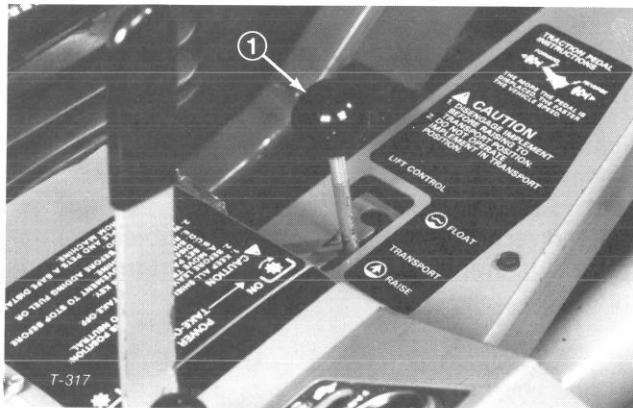
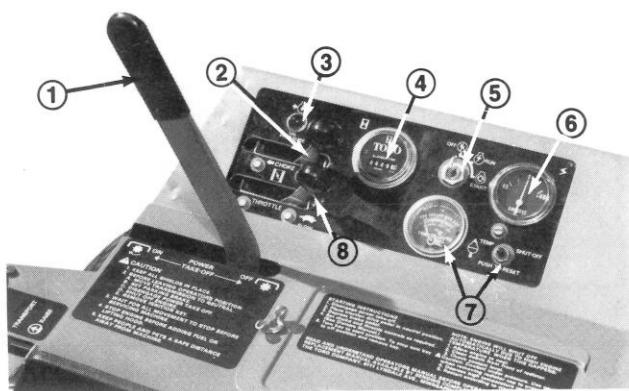

Figure 19
Figure 20
Lift Lever (Fig 19) — The hydraulic lift lever has three positions; FLOAT, TRANSPORT and RAISE. To lower implement to the ground, move lift lever forward into notch, which is the FLOAT position. The FLOAT position is used for operation and also when machine is not in operation. To raise implement, pull lift lever backward to the RAISE position. After implement is raised, allow lift lever to move to the TRANSPORT position. Normally, implement should be raised when driving from one work area to another, except when descending steep slopes.
PTO Lever (Fig. 20) — The PTO lever has two positions; ON, engage and OFF, disengage. Slowly push PTO lever fully forward to ON position to start the implement or cutting unit blades. Slowly, pull lever backward to OFF position to stop implement operation. The only time PTO lever should be in the ON position is when implement or cutting unit is down in operating position.
Oil Pressure Warning Light (Fig. 20) — The oil pressure warning light will glow and a buzzer will sound when oil pressure in engine drops below a safe level. If low oil pressure ever occurs, stop engine and determine the cause. Repair the damage before starting the engine again.
Hour Meter (Fig. 20) — The hour meter registers accumulated hours of engine operation. Use the hour meter to determine intervals for service maintenance and lubrication.
Ammeter (Fig. 20) — Ammeter shows charge rate of the battery by the alternator. When engine is running, there usually is a slight charge, unless engine is idling slowly. Needle will point to 0 when battery is fully charged. By contrast, alternator is not charging the battery when needle points to (-) negative side of ammeter, and if this happens, repair the charging system to prevent discharge of the battery.
Temperature Switch/Gauge and Reset Button (Fig. 20) — The temperature switch/gauge registers the temperature of the coolant in the cooling system. If temperature of coolant gets too high the engine will shut off automatically. When this happens, rotate ignition key to OFF. Automatic shut-off of the engine usually results from debris on front of screen or radiator, which reduces air flow. After cleaning outside of screen and radiator or repairing some other damage, press the reset button and start the engine.
Ignition Switch (Fig. 20) — The ignition switch, which is used to start and stop the engine, has three positions; OFF, RUN and START. Rotate
Choke (Fig. 20) — To start a cold engine, close carburetor choke by moving choke control fully forward. After engine starts, regulate choke to keep engine running smoothly. As soon as possible, open the choke by pulling it backward.
Throttle (Fig. 20) — Throttle is used to operate engine at various speeds. Moving throttle forward increases engine speed — FAST; backward decreases engine speed — SLOW. The throttle regulates the speed of the cutter blades or other implement components and, in conjunction with traction pedal, controls ground speed of the traction unit.
1. Insure parking brake is set, PTO lever is in OFF position (Fig. 20) and lift lever is in TRANSPORT or FLOAT position (Fig. 19). Remove foot from traction pedal and assure it is in neutral.
2. Move throttle control (Fig. 20) to SLOW position.
3. To start engine, move choke lever (Fig. 20) fully forward.
4. Insert key into ignition switch (Fig. 20) and rotate it clockwise to START position. Release key immediately when engine starts and regulate choke to keep engine running smoothly.